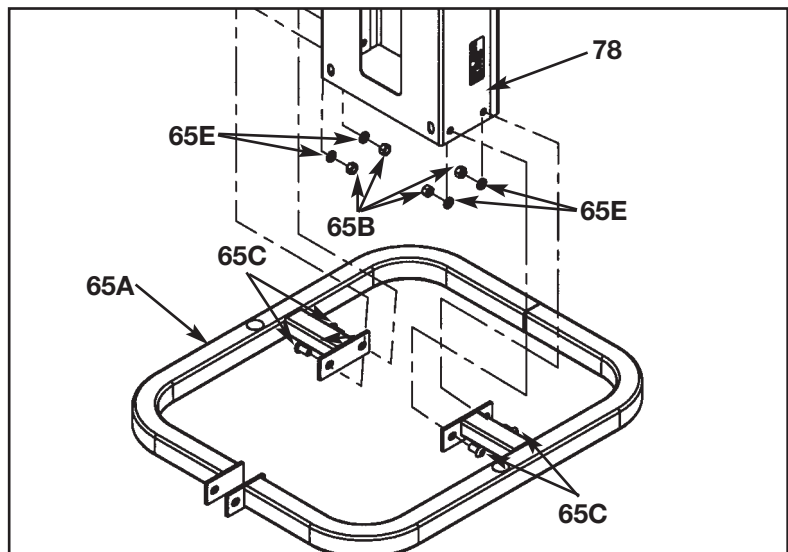

Figure 9
- C. With an assistant, carefully place column (#78) into stabilizer (#65A) then attach hardware as shown in Figure 9.